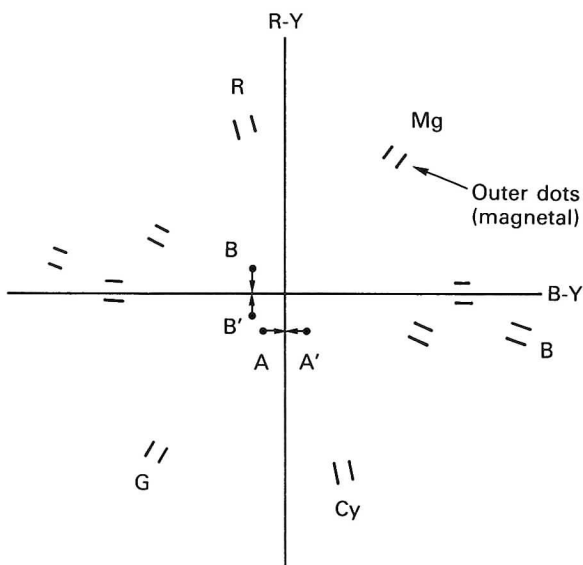

Fig. 6 Vector Pattern of G-card Signal
- 8) Set the oscilloscope to the X-Y mode. Connect TP46 (B-Y OUT) and TP45 (R-Y OUT) to the oscilloscope horizontal and vertical inputs respectively to display a vector pattern on the screen. (Fig. 6)
- 13) Detune L601 so that the movable dots may be shifted and distinguished from the center bright point. (Fig. 6)
- 14) Observing the movable dots, AÁ an BB, adjust SUB-COLOR control VR601 on PCB-MAIN so that the double dots shifted in step 13) may come up to the nearest points of X or Y axis, (Fig. 6).